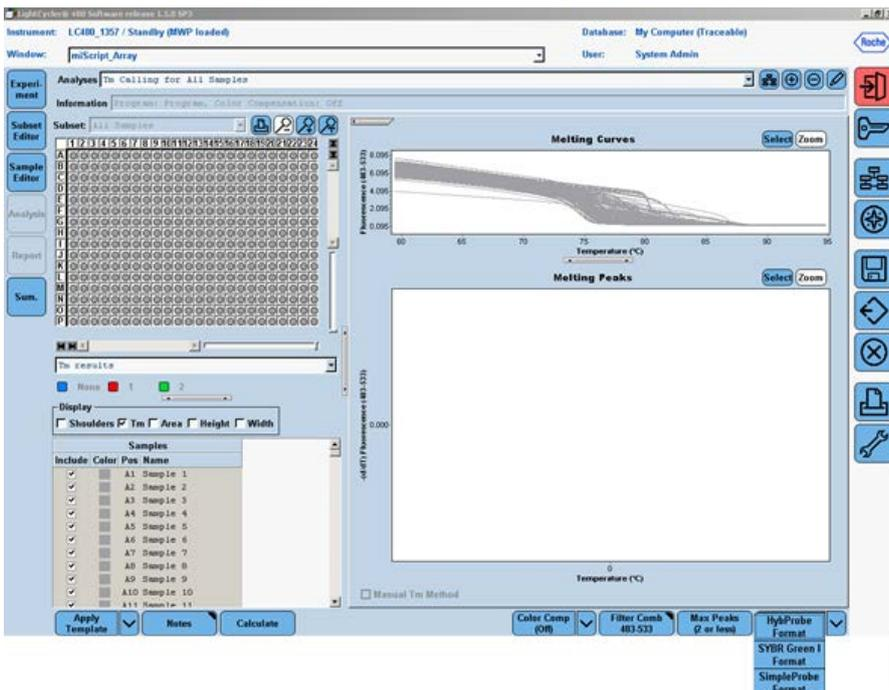

Figure 12. Generating the melt curve analysis.
24. The “Analysis” window with the raw melt curves will appear (Figure 12). To proceed, click the down arrow button () on the lower right corner of the screen to set the analysis to “SYBR Green I Format”. Next click the “Calculate” button. The calculation may take several minutes. Once the melting peaks and T_m values appear, check the specificity of each assay by ensuring the presence of a single melt peak in each well. Then click the  button on the right panel to save the melt curve analysis as part of the run file.